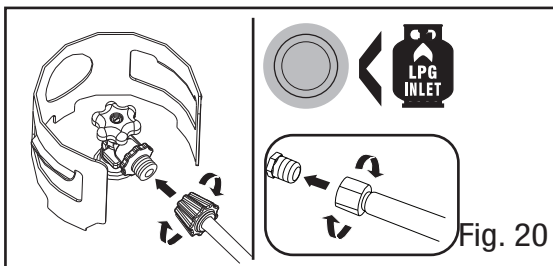

Fig. 20
1. Connect the LPG gas hose to the propane fuel source. Connect the small end of the LPG gas hose to the LPG regulator on generator and then snug with a wrench to prevent leakage. (Fig. 20).